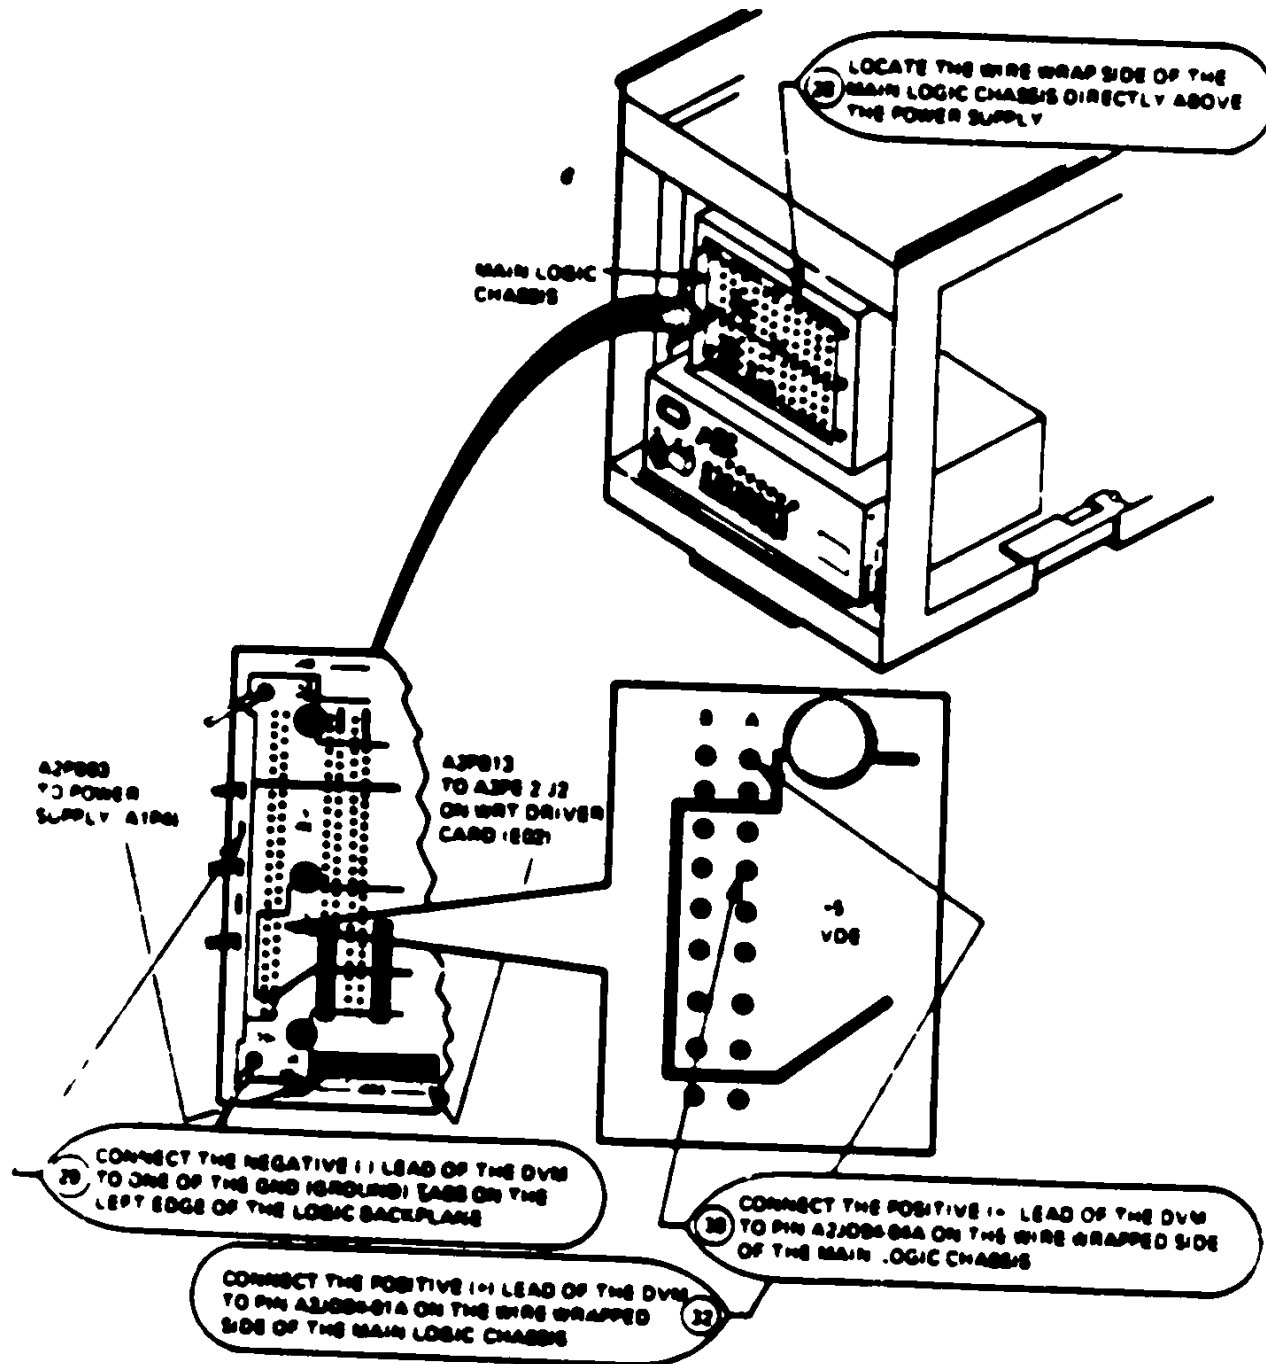

FIGURE 13 RM05 MAIN LOGIC CHASSIS (WIRE WRAPPED SIDE)
28. Locate the wire-wrapped side of the main logic chassis directly above the power supply. (See Figure 13)
29. Connect the negative (-) DVM lead to one of the GND (ground) tabs on the left edge of the wire-wrapped side of the main logic chassis. (See Figure 13)
30. Connect the positive (+) DVM lead to Pin A2JD94-04A on the wire wrapped side of the main logic chassis. (See Figure 13)
32. Connect the positive DVM lead to Pin A2JD94-01A on the wire wrapped side of the logic chassis. (See Figure 13)